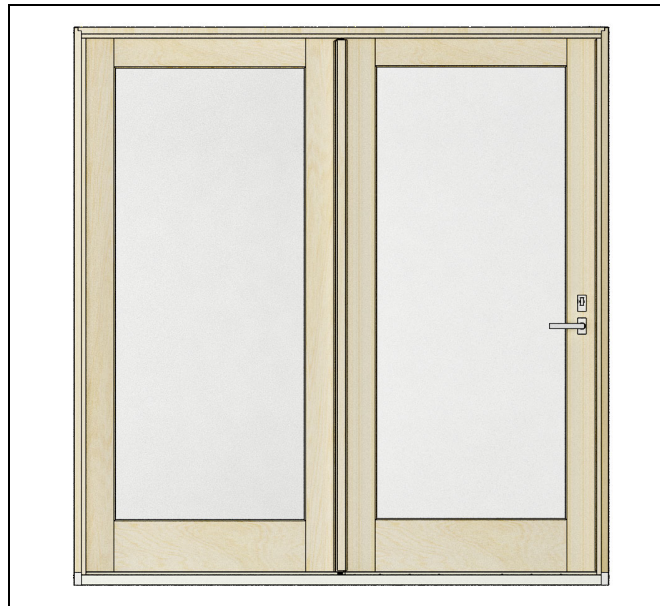

Figure 33
3. Fully lock your panel for installation. See Figure 33.